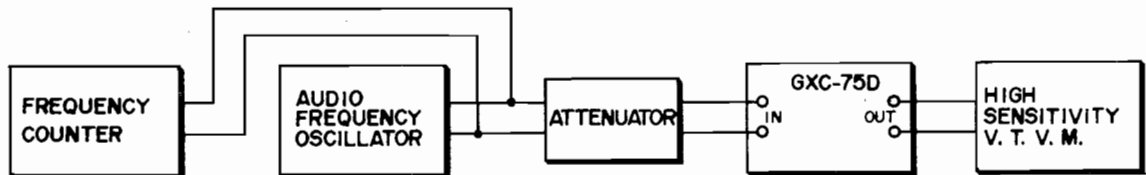

Fig. 21 Various Measuring Instrument Connections
(Refer to Figs. 21 and 22)
(Refer to Figs. 21 and 25)
- a) Connect the various measuring instruments as shown in Fig. 21.
(2) RECORDING CIRCUIT ADJUSTMENT